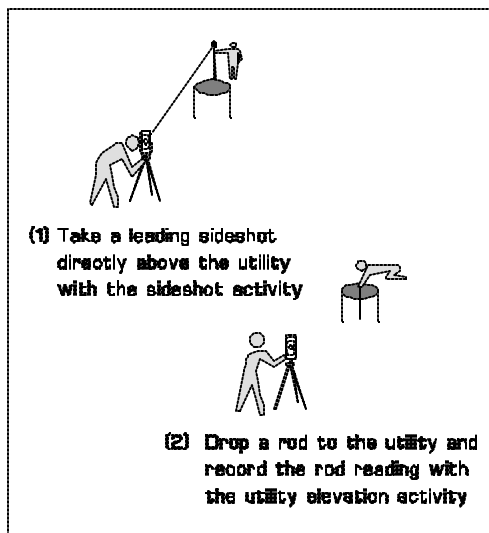

Figure 3-3 Utility Elevation
1. Take a sideshot to the ground point directly above or below the utility, as shown in Figure 3-3.